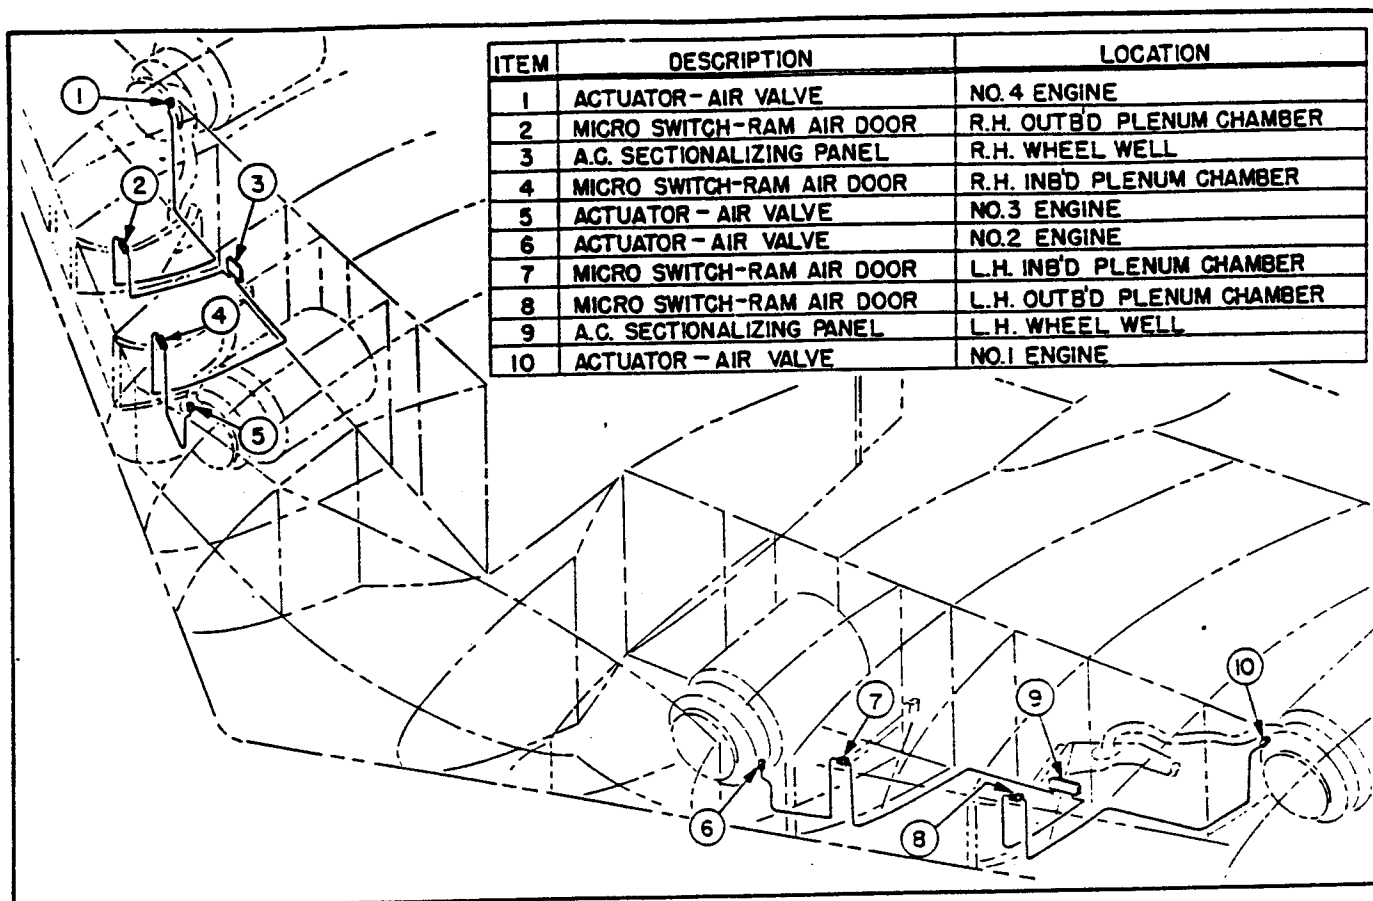

Figure 3. Ground Cooling Air Valve - Electrical
(2) REMOVAL.- Refer to paragraph 13 i (8).
(3) INSTALLATION.- Refer to paragraph 13 j.
e. GROUND COOLING AIR VALVE. (See figure 3.)
(1) DESCRIPTION.- The ground cooling air valve assembly is located on the right hand side of the engine fan cooling shroud of engines 1 and 3, and on the left hand side of the shroud of engines 2 and 4. Though it is installed primarily to provide a channel for engine fan cooling air (to the exhaust ducting system) when the airplane is on the ground, it is utilized also when the airplane is in flight. When the airplane reaches a sufficient speed, the increased air pressure in the ram air duct actuates a valve which energizes a motor driven actuator incorporated in the ground cooling valve. This valve then returns to the closed position where it remains until the ram air pressure again falls. The rammed air valve in closing operates a single pole, double throw micro switch, which completes the power circuit to one of the windings of the reversible, single phase a.c. actuator motor, thereby causing the valve to open. When the air pressure becomes great enough to open the rammed air valve, the micro switch completes the power circuit to the other motor winding, causing the motor to revolve in the opposite direction, and the ground cooling valve to